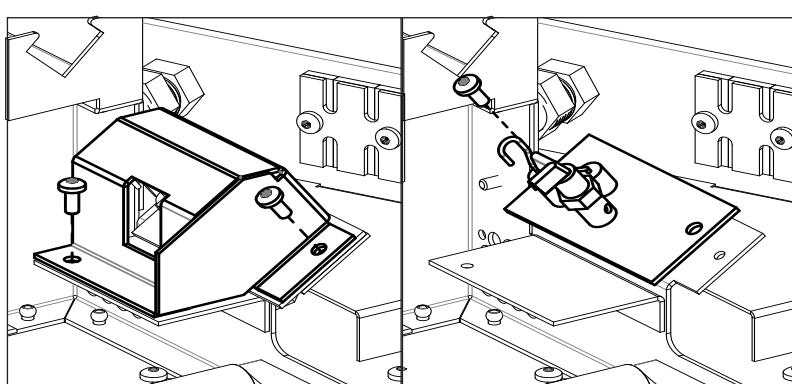

Figure 10: Pilot Shield & Pilot Removal
7. Remove the pilot shield and pilot from the log burner assembly (see Figure 10).